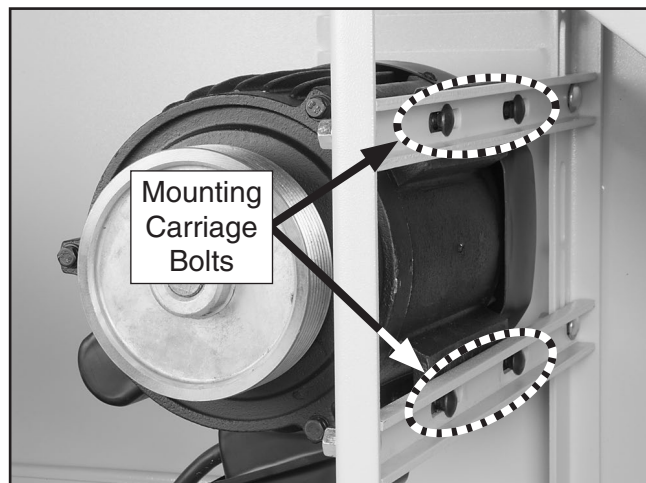

Figure 16. Motor adjustment controls.
- If they are not aligned, loosen the four mounting carriage bolts shown in **Figure 16**, shift motor horizontally to align pulleys, then retighten carriage bolts.